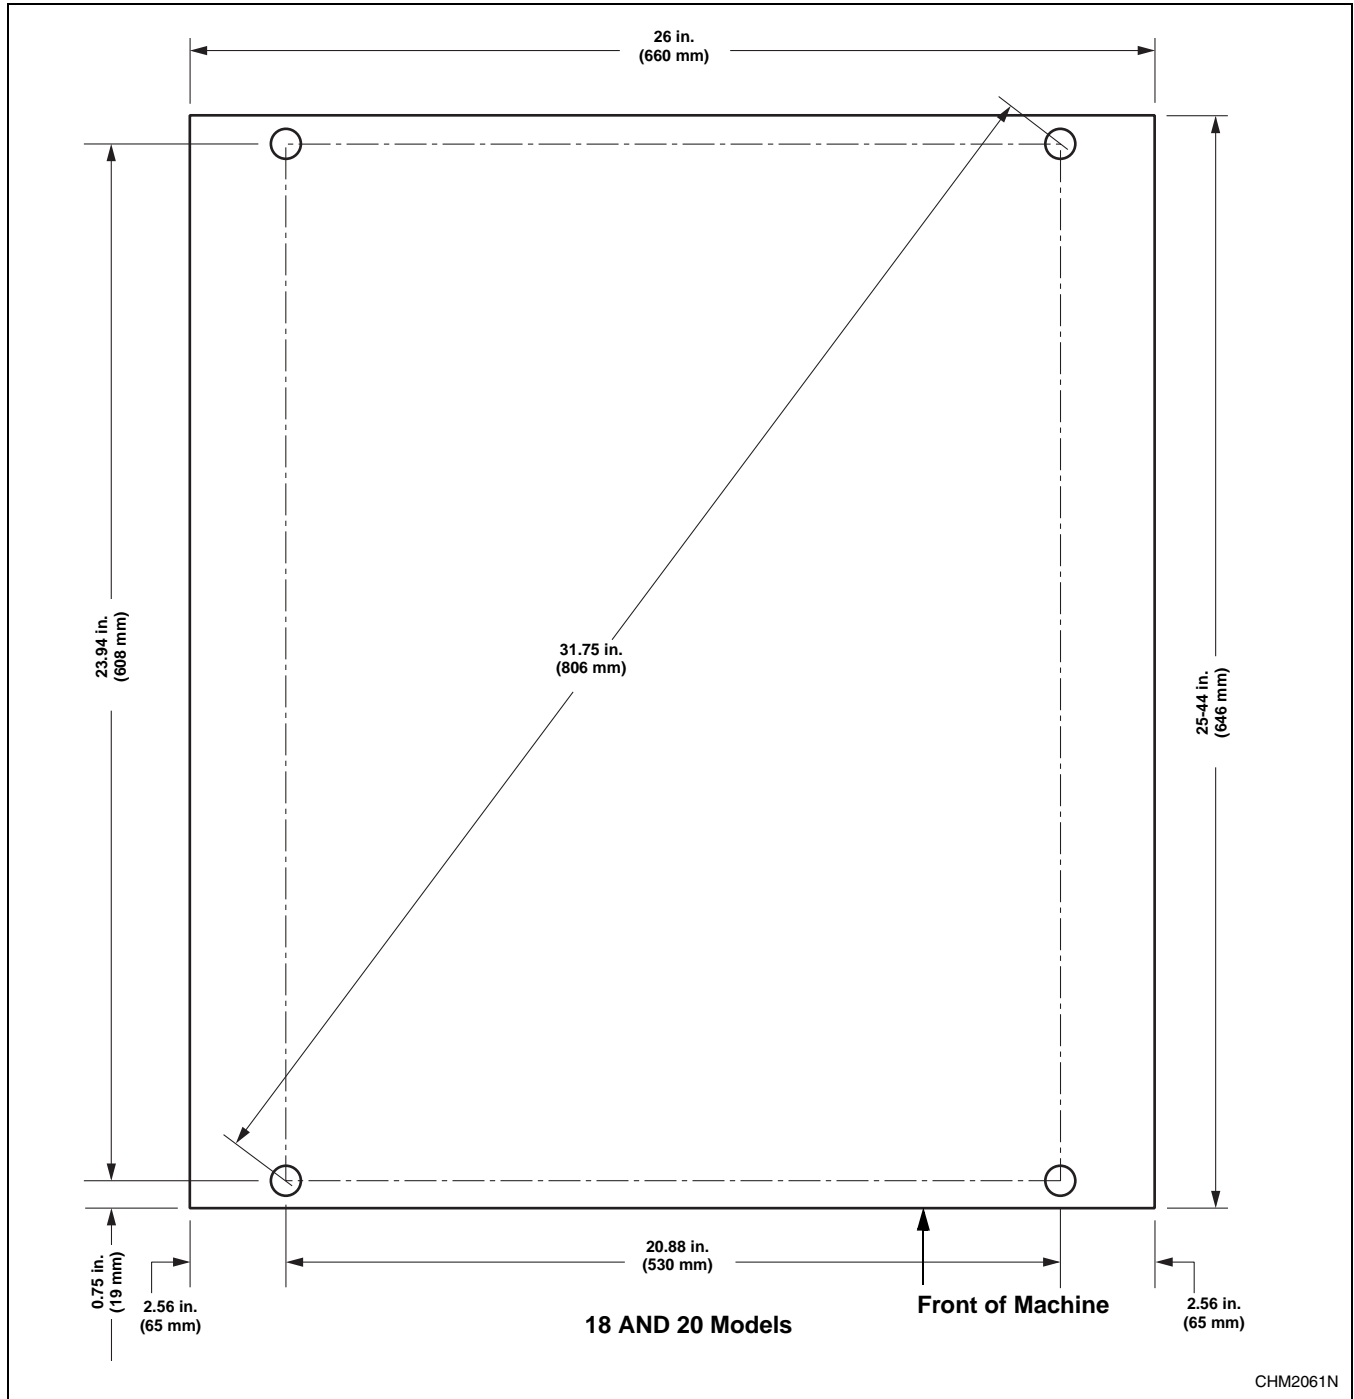
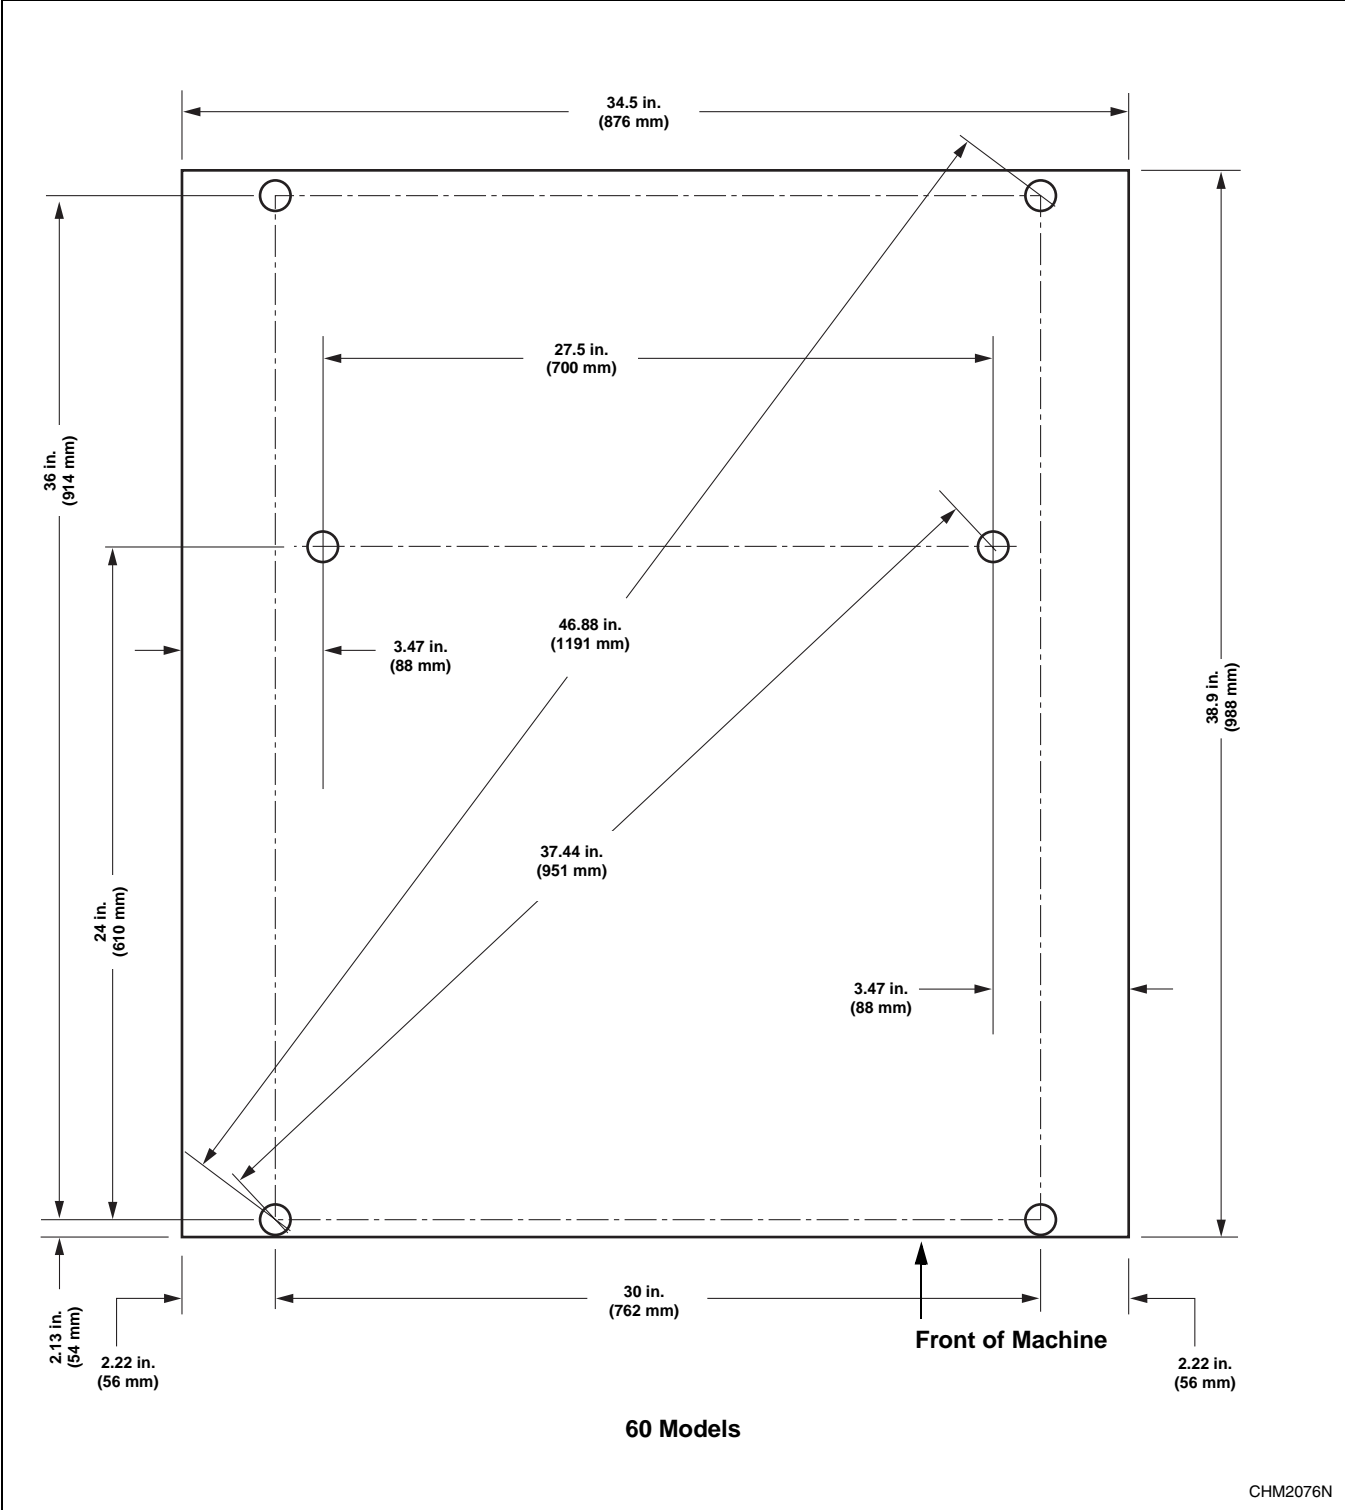

Figure 16
Figure 31
2. Install J-bolts in concrete as shown in the mounting bolt layouts (*Figure 16* through *Figure 31*) following these instructions.